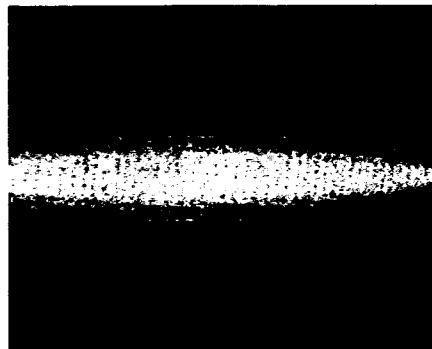

Figure 5-6. Waveform at A13TP1.
g. Adjust "OFS-1" potentiometer A13R1 until dc level of displayed waveform is 0mV \pm 1mV. Refer to Figure 5-6 which shows well adjusted waveform.